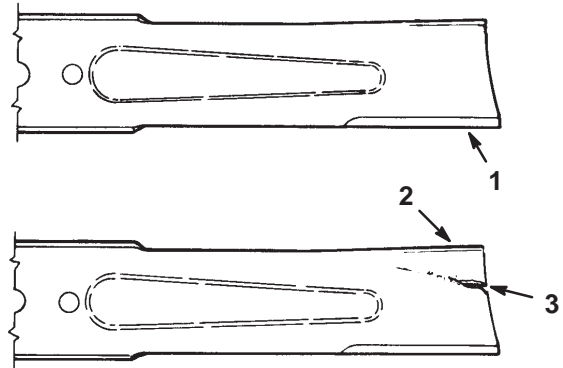

Figure 38
1. Inspect the cutting edges (Fig. 38). If the edges are not sharp or have nicks, remove and sharpen the blades. Refer to Sharpening the Blades on page 31.
2. Inspect the blades, especially the curved area (Fig. 38). If you notice any damage, wear, or a slot forming in this area (item 3 in Fig. 38), immediately install a new blade.